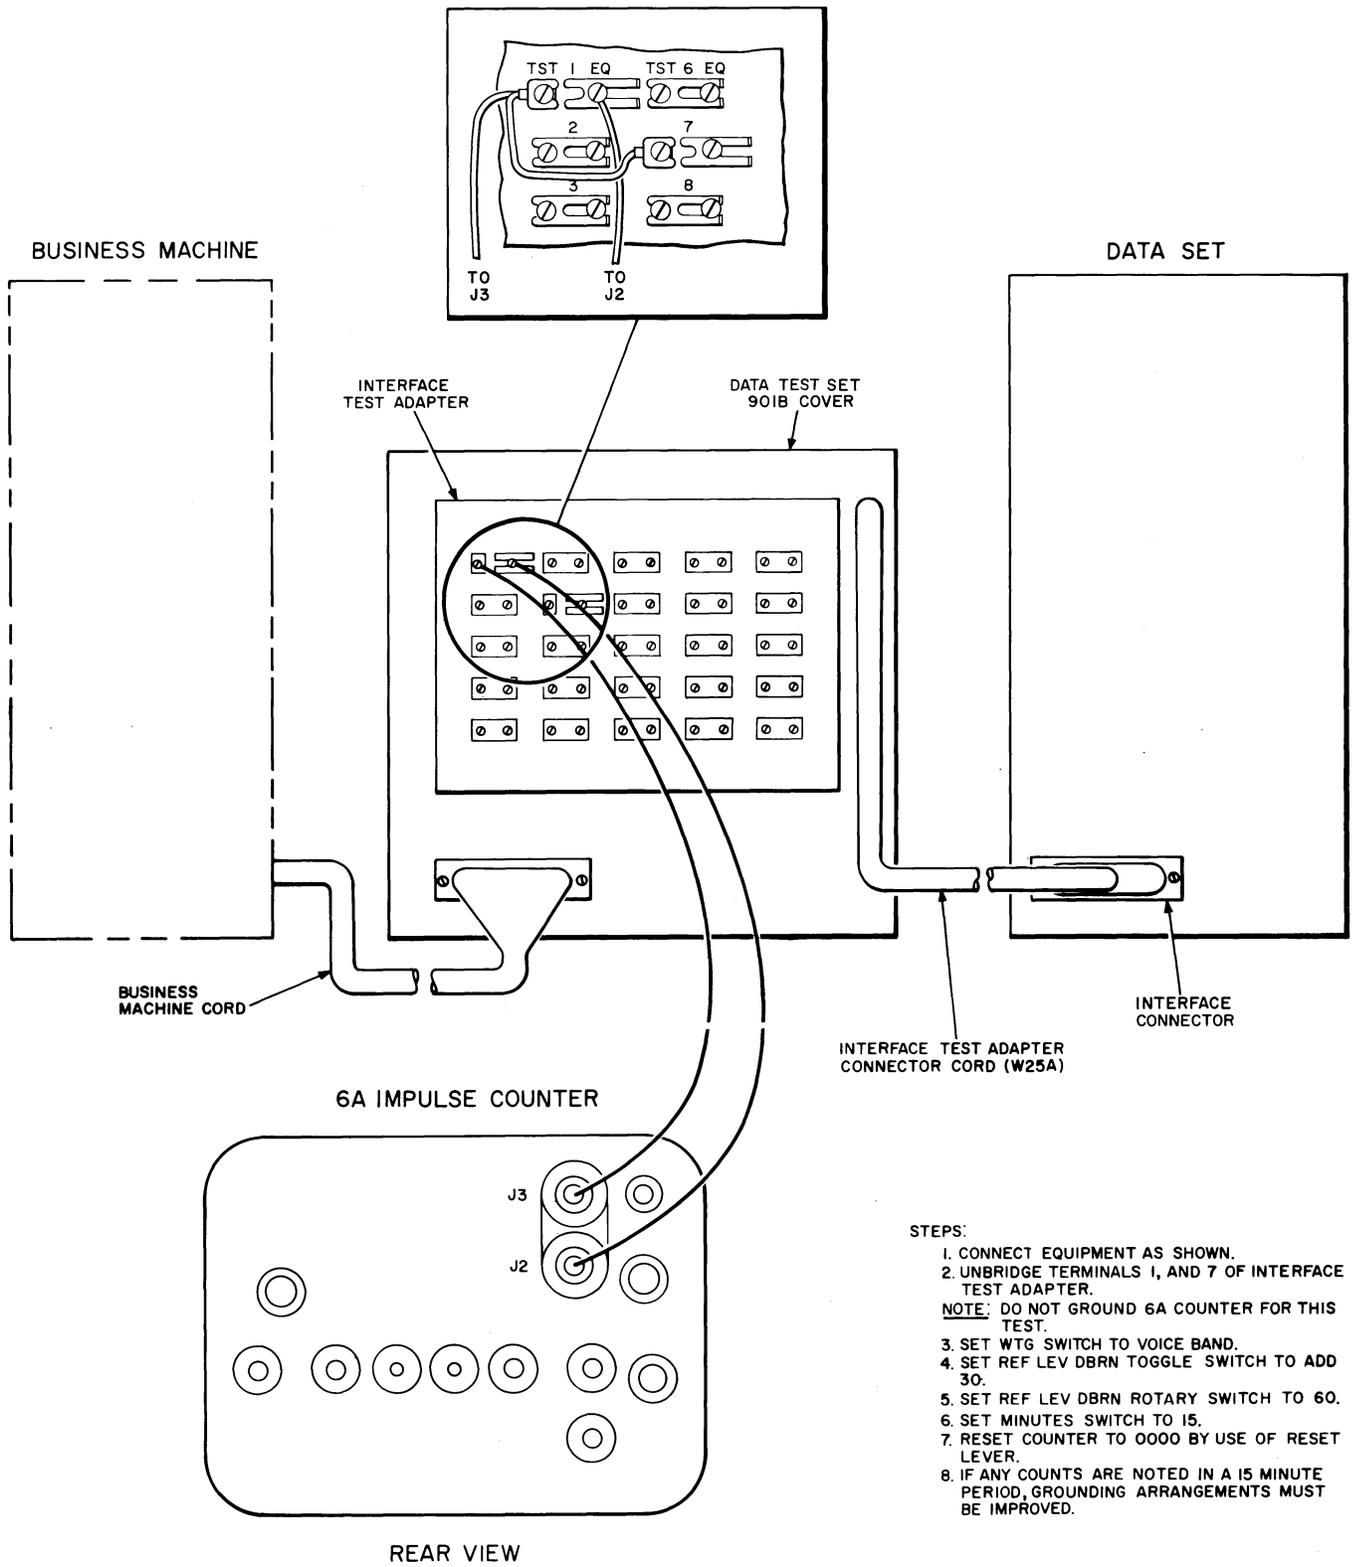
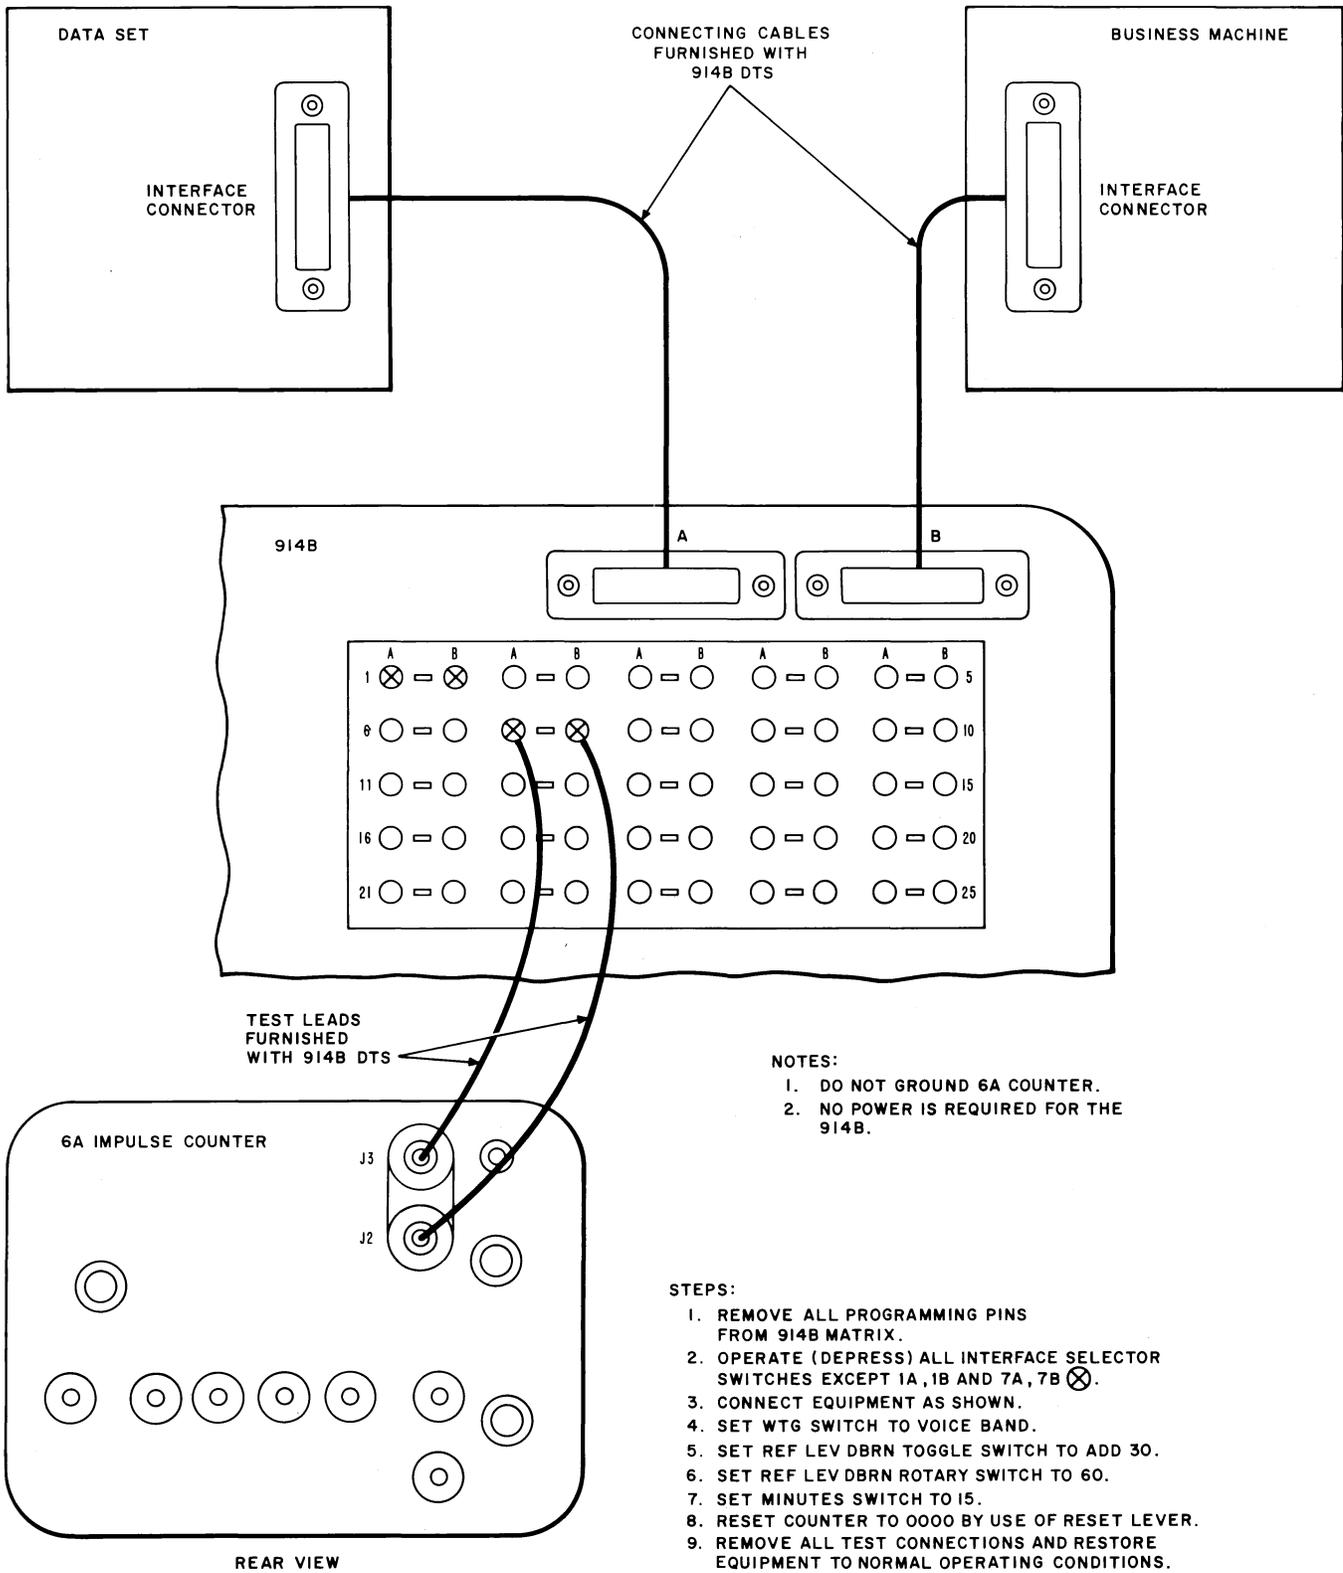

Fig. 4—6A Impulse Counter Test
Fig. 5—Power Ground Noise Test Using 6A Impulse Counter and 914B Data Test Set
**2.04** The 6A impulse counter is connected and the test is performed as shown in either Fig. 4 if the interface test adapter is used, or Fig. 5 if the 914B DTS is used.